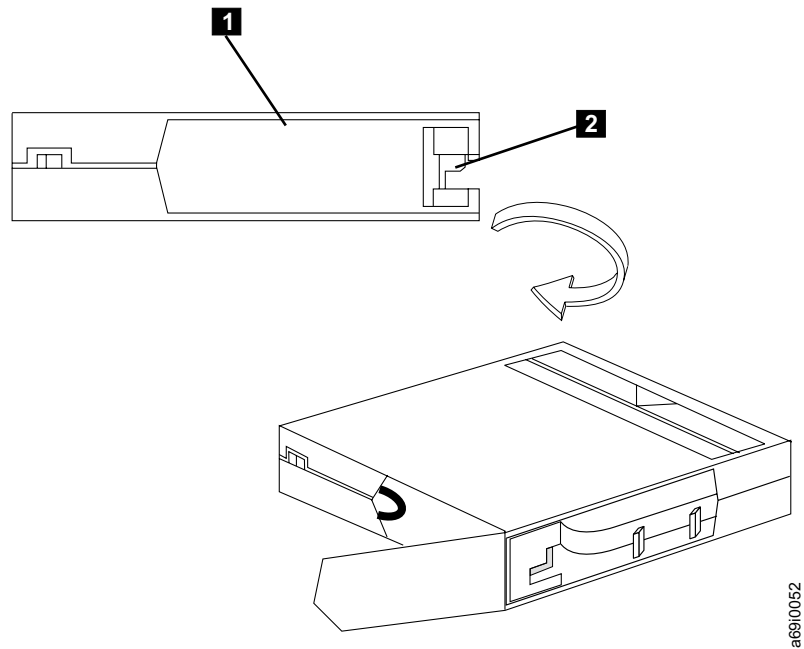

Figure 47. Opening the Tape Cartridge Door
7. Open the cartridge door (**1** in Figure 47 on page 185) by pressing and holding the door-locking tab **2** upward, and pushing it away from you.